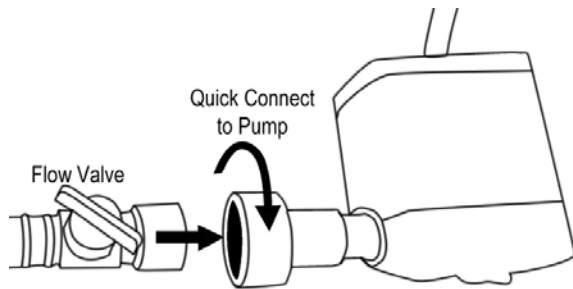

Fig 5.3
4. Connect the pump (H) to the plumbing using the quick connect fitting (Fig 5.3). The flow valve **should** be open. Open is when the valve is in line with the plumbing. Closed is in perpendicular position.